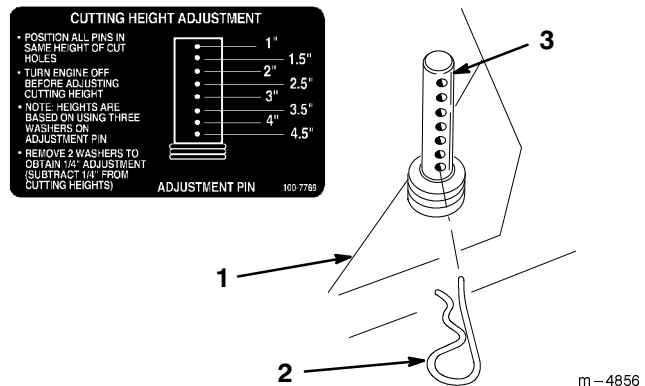

Figure 36
12. Select hole in height-of-cut post corresponding to the height-of-cut desired. Lift on side and front to align holes and hairpin cotter (Fig. 36).